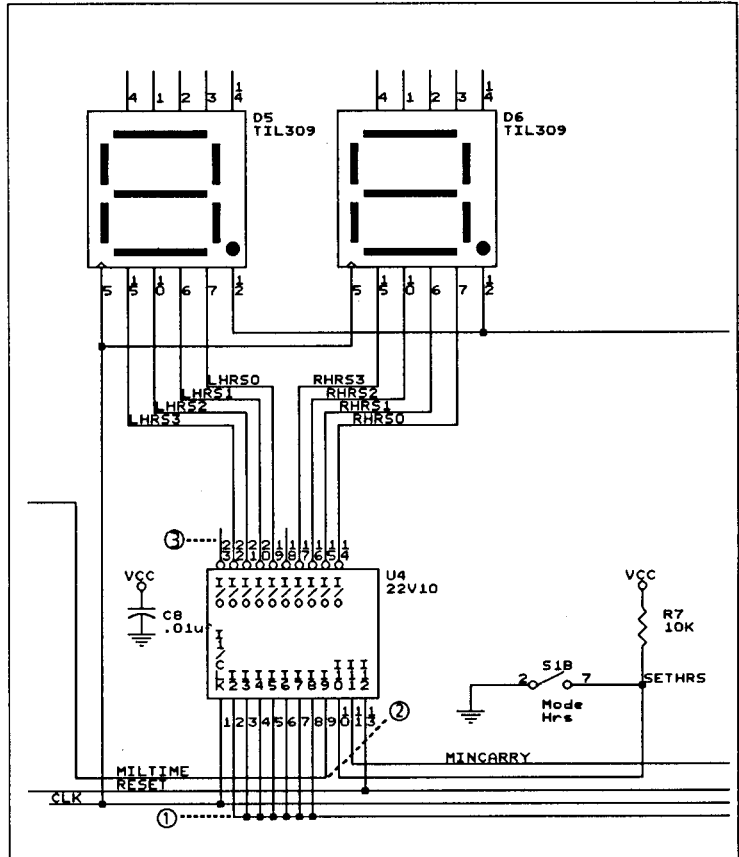

Figure 6-6. Hours area of the clock logic. The callouts refer to the step numbers in this section.
Before working on the hours circuit, move the pointer to the leftmost 22V10 and select **ZOOM Center**. Then follow the steps below to complete the wiring for the hours circuit (figure 6-6).
3. Move the pointer to the bottom wire directly below the TIL309 on the left, and place the label as shown in figure 6-6.